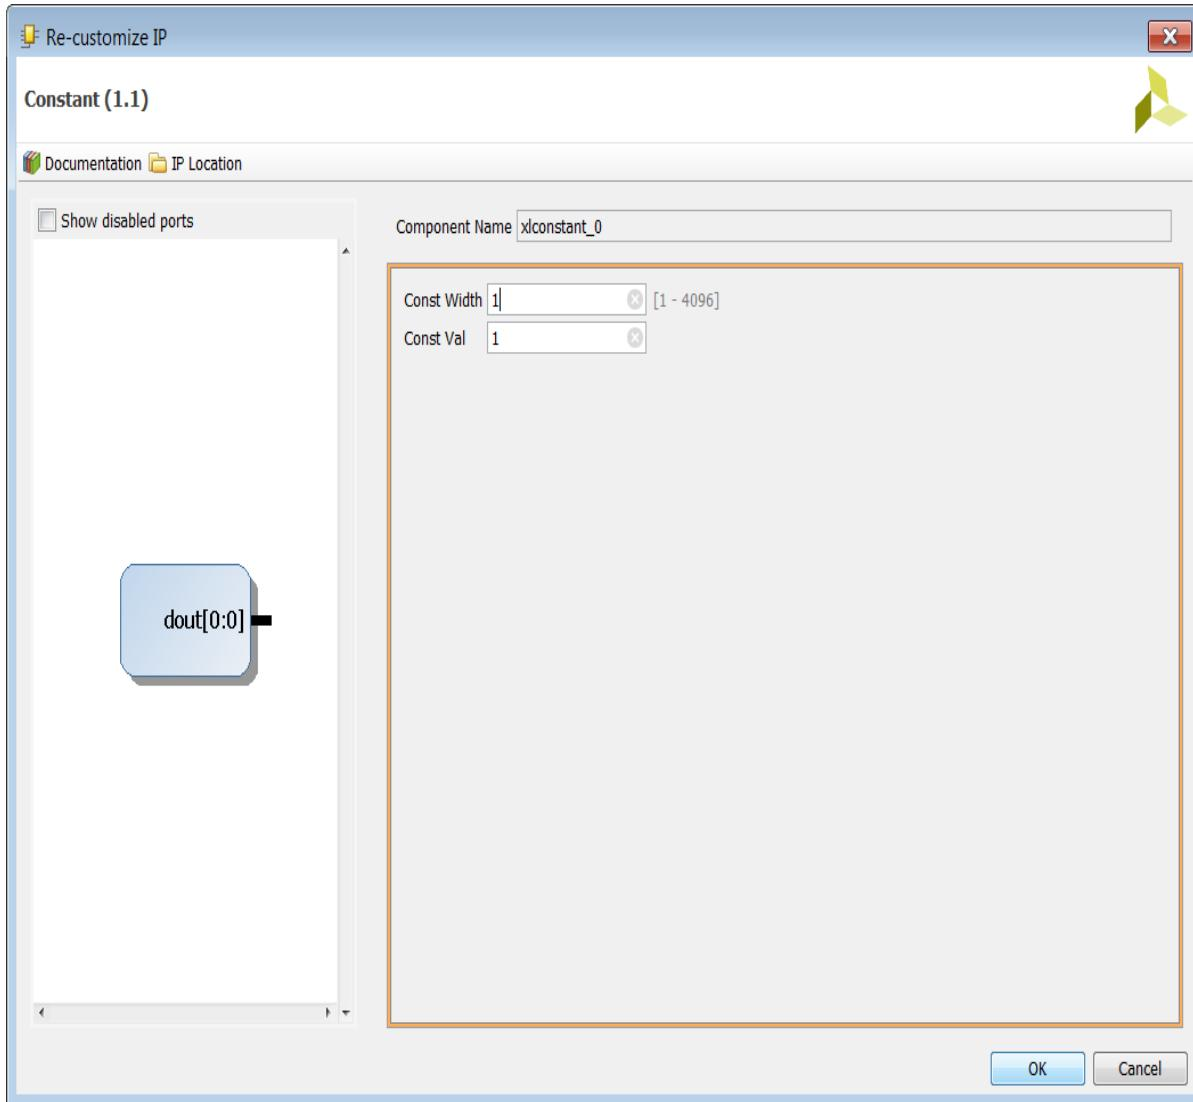

Figure 9-21: Constant IP Properties
- Double-click the Constant IP symbol (Figure 9-21) and verify that **Const Width** and **Const Val** are set to 1.